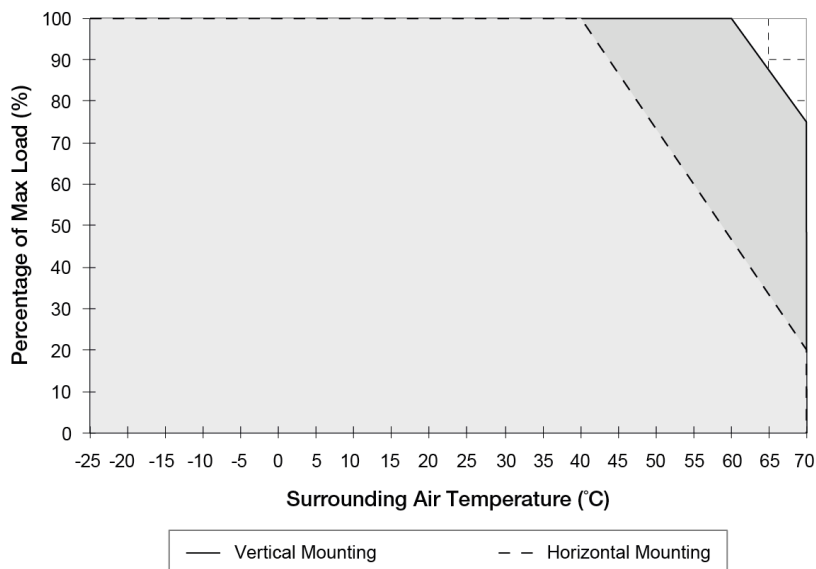

Fig. 5 De-rating for Vertical Mounting Orientation
1. Power supply components may degrade, or be damaged, when the power supply is continuously used outside the shaded region, refer to the graph shown in Fig. 5.